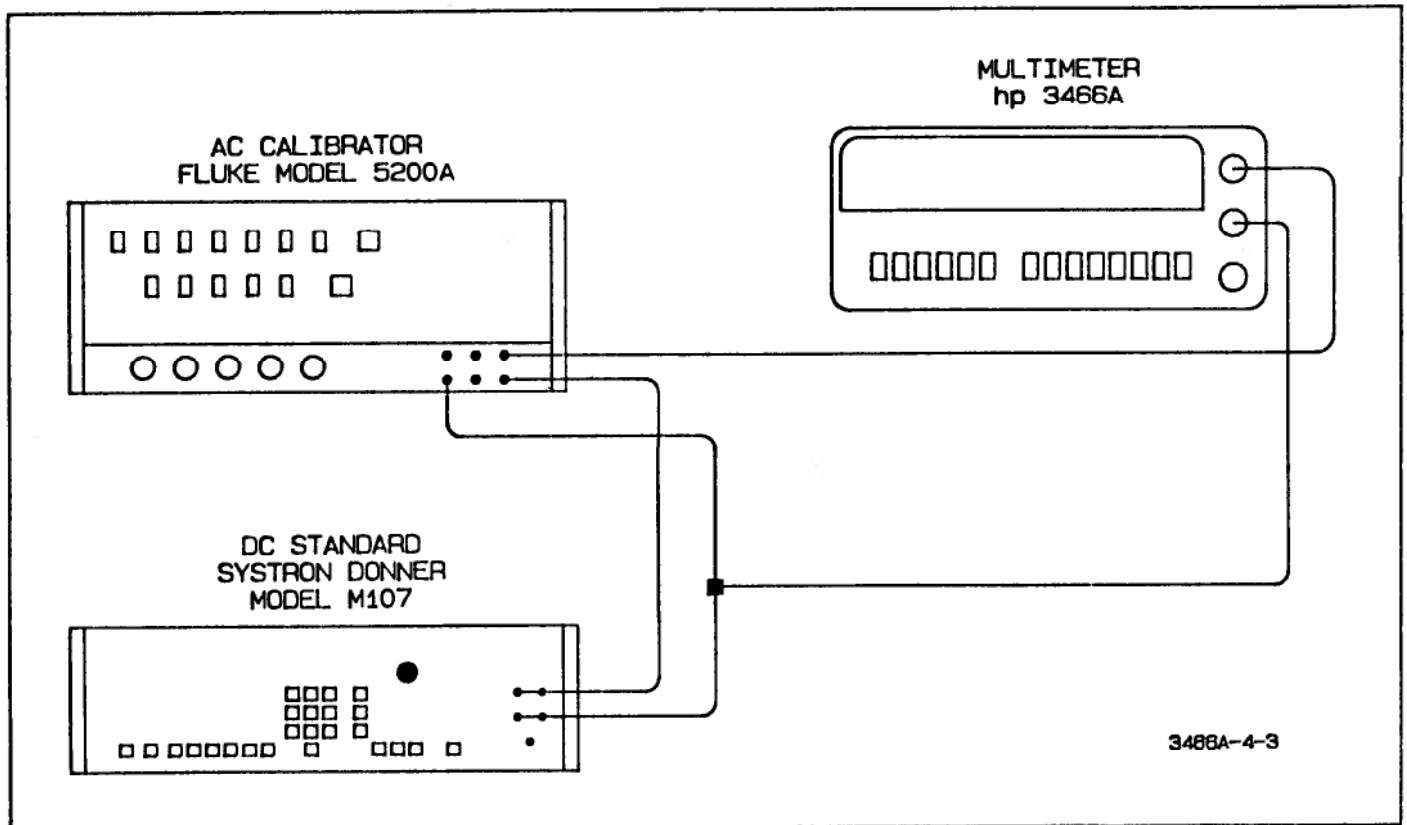

Figure 4-3. True RMS Voltmeter Accuracy Test
c. Connect the AC Calibrator and DC Standard to the 3466A as shown in Figure 4-3.